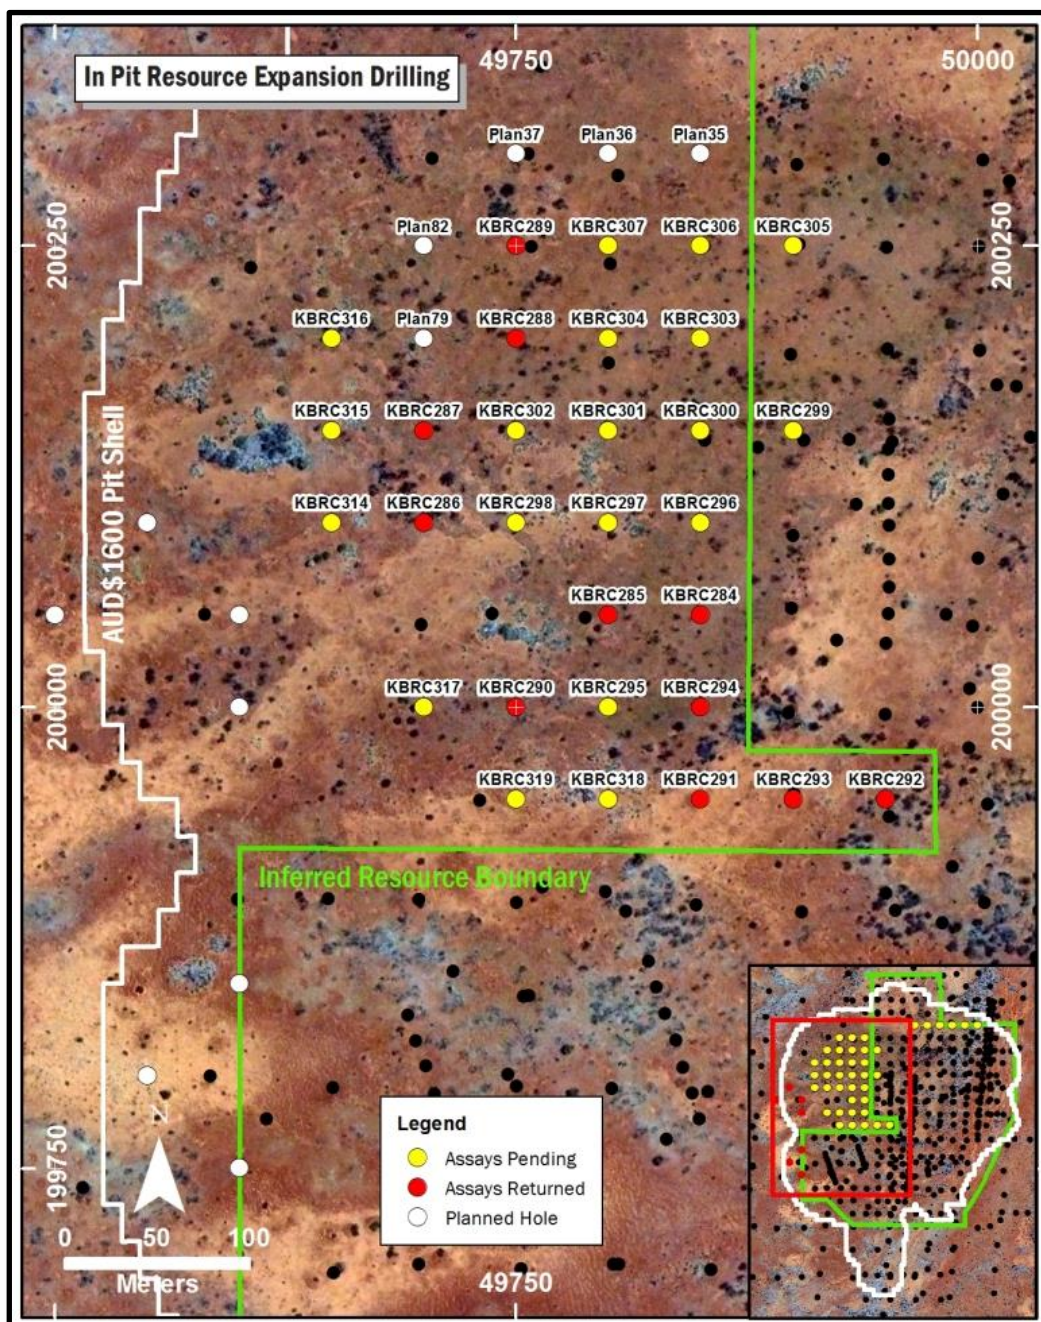
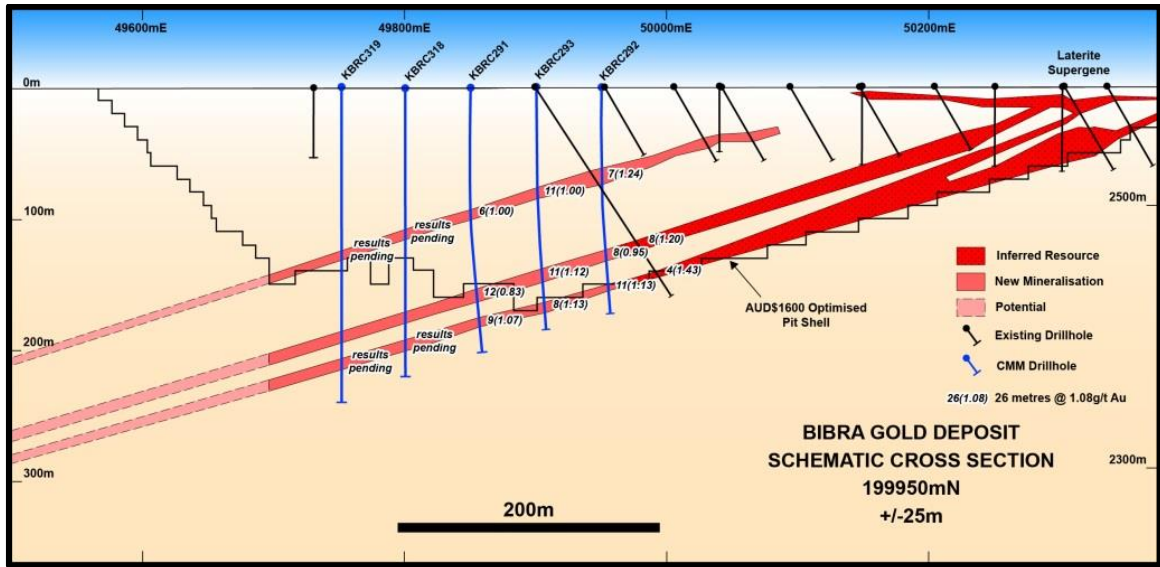

Figure 2: Plan showing drilling etc
Figure 3a: BIBRA GOLD DEPOSIT SCHEMATIC CROSS SECTION (199950N)
- This drilling has been focused on the “Main Lode” in the northern area of the optimised open pit (Figure 2). These initial results indicate that there is strong continuity of mineralisation outside of the currently reported Inferred Resource and that the mineralised shear zone remains consistent at depth (Figures 3a-c). The drilling remains wide spaced on a 50 metre by 50 metre grid;